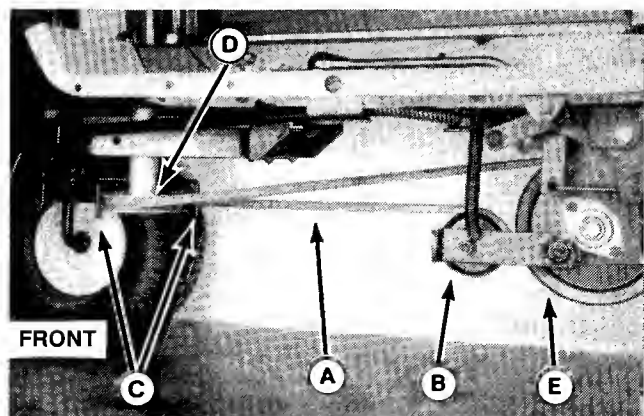

Figure 26.
1. Remove belt (A, Figure 26) from jackshaft idler pulley (B).
6. Make sure belt is positioned as shown in Figure 26.